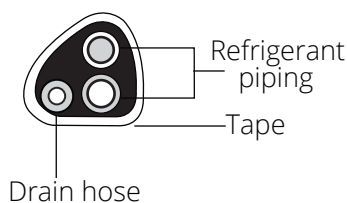

Fig. 4.7
3. Now, you will need to lightly tape the refrigerant piping and drain pipe together in a bundle, using electrical tape, making sure that the drain pipe is at the bottom. **DO NOT** tape the ends of the piping (connectors). Refer to **Fig 4.7** and the image below for the correct orientation of the piping when taping.